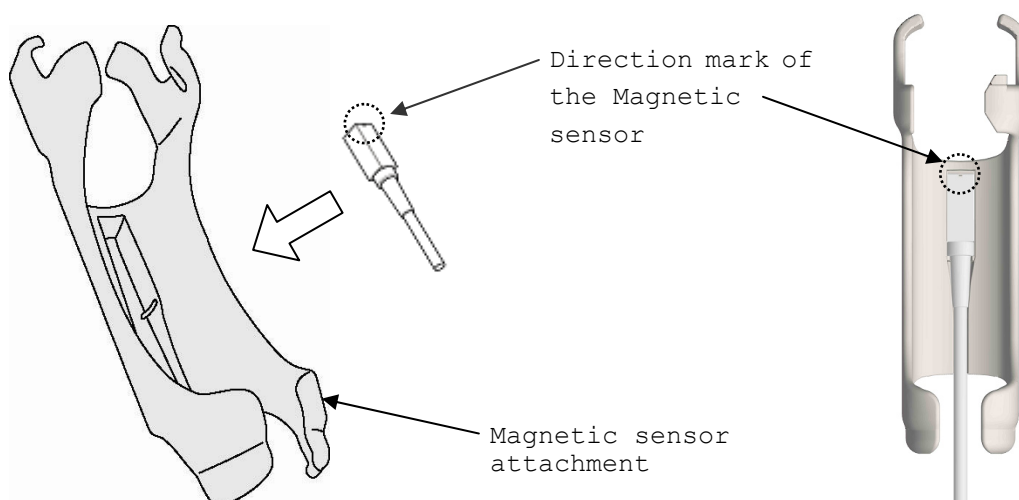

Fig.13 How to attach the Magnetic sensor
- b) Insert the Magnetic sensor into the Magnetic sensor attachment with the correct direction as shown in Fig.13.